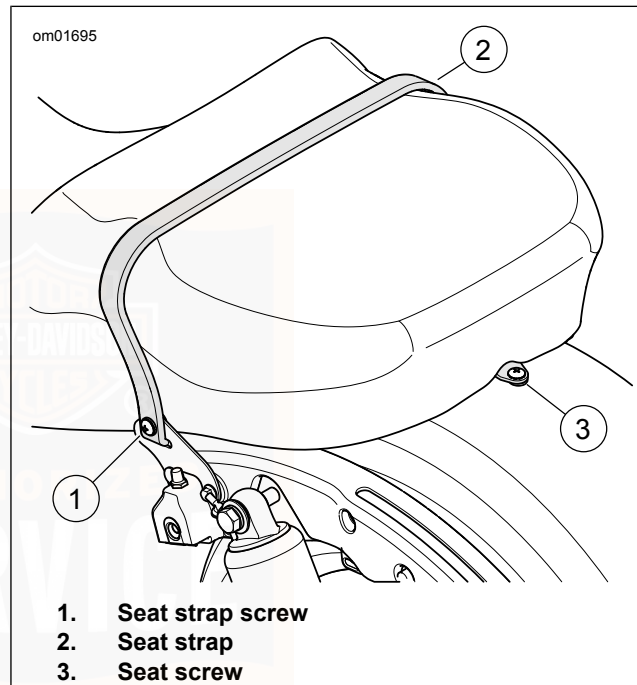

Figure 102. Seat Strap Screw
3. See Figure 102. Remove screw to release seat strap from bracket.
2. See Figure 102. Secure seat bracket to rear fender with screw. Tighten.
4. See Figure 102. Insert strap in slot on seat strap bracket.